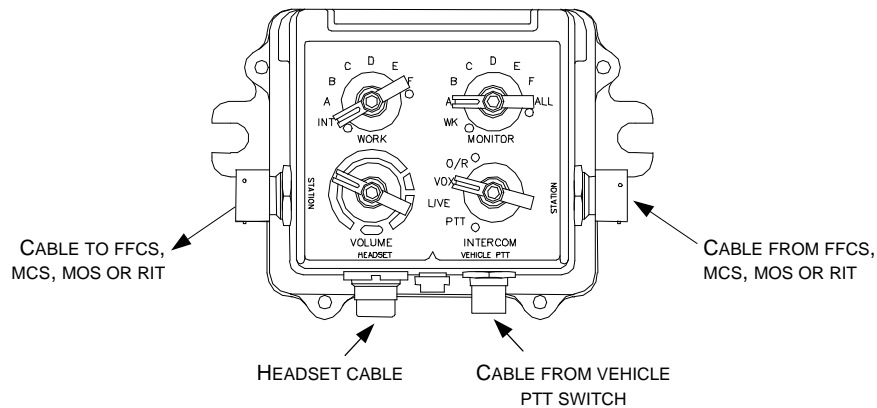

Figure 3-2. Full Function Crew Station (FFCS)
3.3. FFCS REMOVAL AND REPLACEMENT (Fig. 3-2)